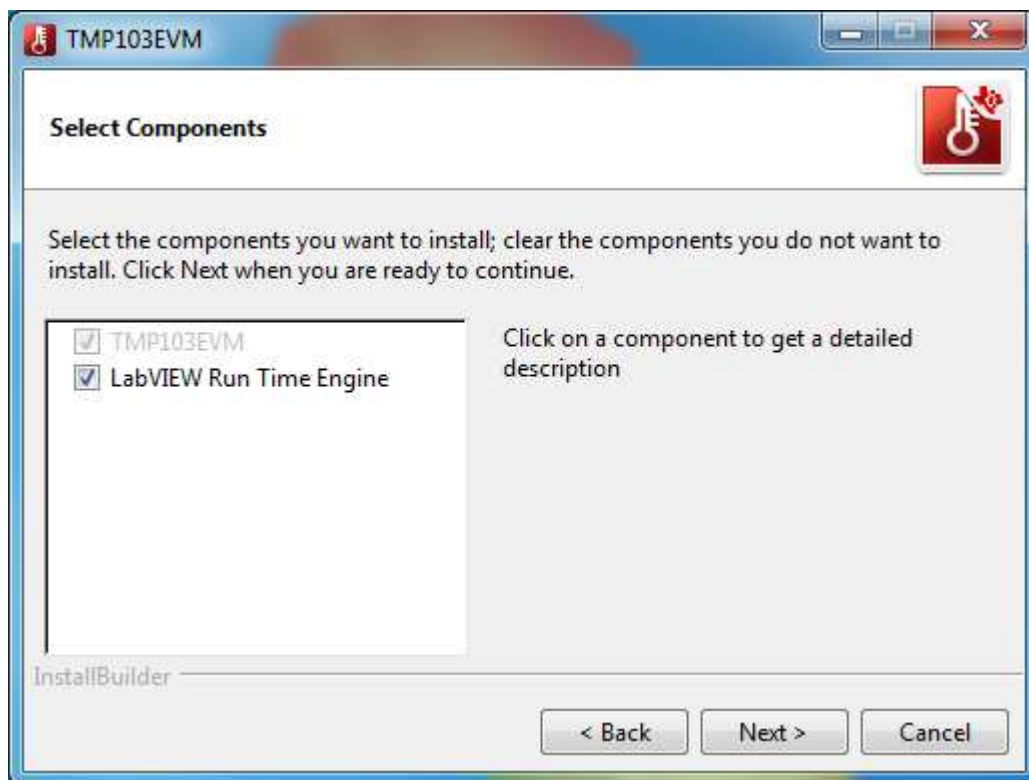

Figure 12. Select Components Installation
4. For first-time installation, ensure the LabVIEW Run Time Engine is listed in the following summary as shown in Figure 12. TMP103EVM GUI is required LabVIEW 2016 f2 runtime engine for proper operation. Once the Next button is clicked, the progress bar opens and shows the installation of the software. It may take some time to download the LabVIEW Run Time Engine on the first installation. Users may be prompted to download the file when installing the software for the first time, especially if the LabVIEW Run Time Engine checkbox is checked.